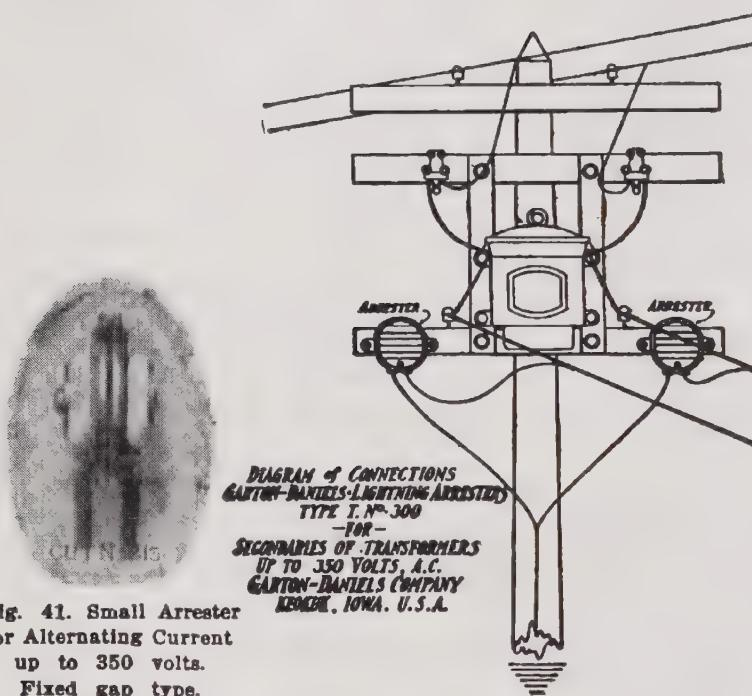

Fig. 41. Small Arrester
**Answer.** Yes. A lightning arrester designed for alternating current (abbreviated A. C.) up to 350 volts pressure is shown in Fig. 41.
A detailed description of construction is given later. The general plan is shown in Fig. 41, where will be seen the two large circular discharge plates separated by an air-space of  $1/50$  (.020) inch at their beaded edges. Over this air-gap a heavy discharge may pass, while light discharges and static surges will pass to earth, more slowly, through the high resistance disc that separates the larger metallic discs. This disc is of permanent resistance and allows the passage of but an infinitesimal normal current, while permitting the escape of the high voltage static dis-
The device consists of the parts illustrated in Fig. 44 assembled as shown in side view Fig. 41. Parts Nos. 309 are two metallic discs, formed with a heavy bead around the circumference, the center being flat to make contact with the high resistance disc, No. 311. These parts are